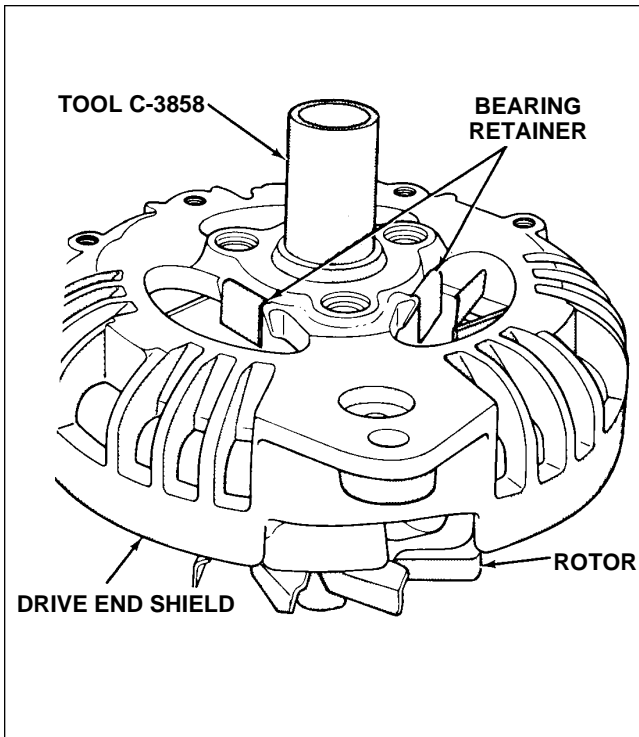

Figure 24-34. Installation of Chrysler Alternator Drive End Shield Bearing
- d. Position bearing and drive end shield on rotor shaft, hold rotor shaft base, and press bearing end shield into position on rotor shaft with an arbor press and tool C-3858. (Refer to Figure 24-34.)